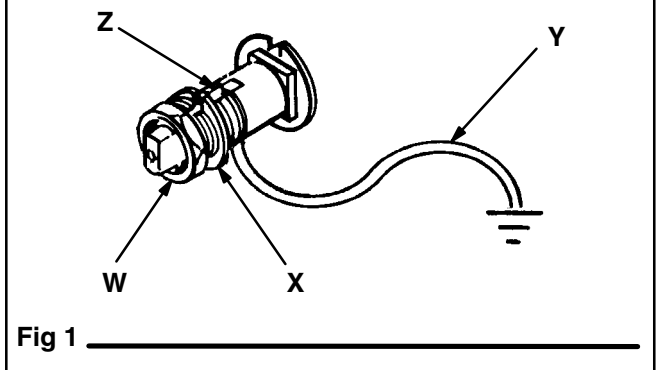

Fig 1
1. *Pump:* use a ground wire and clamp as shown in Fig 1.
To ground the pump, loosen the grounding lug locknut (W) and washer (X). Insert one end of a 1.5 mm² (12 ga) minimum ground wire (Y) into the slot in lug (Z) and tighten the locknut securely. See Fig 1. Refer to page 22 to order a grounding wire and clamp. Connect the other end of the wire to a true earth ground.